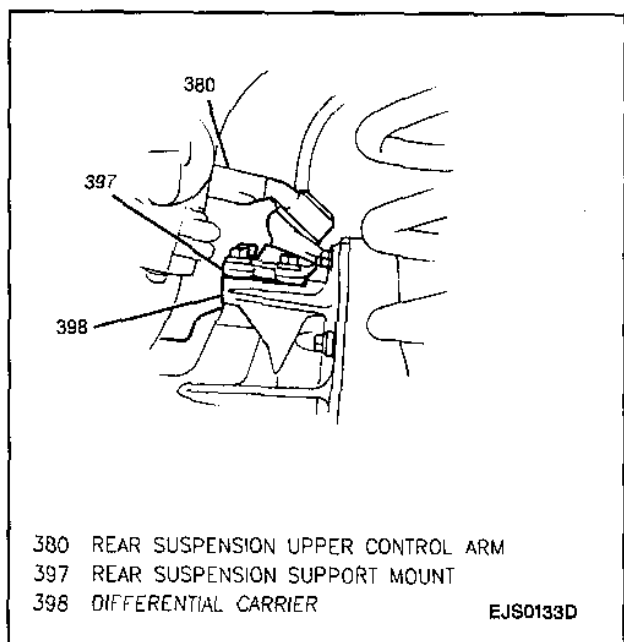

Figure 14—Rear Suspension Support Mount
5. Four bolts and rear suspension support mount from differential carrier (Figure 14).